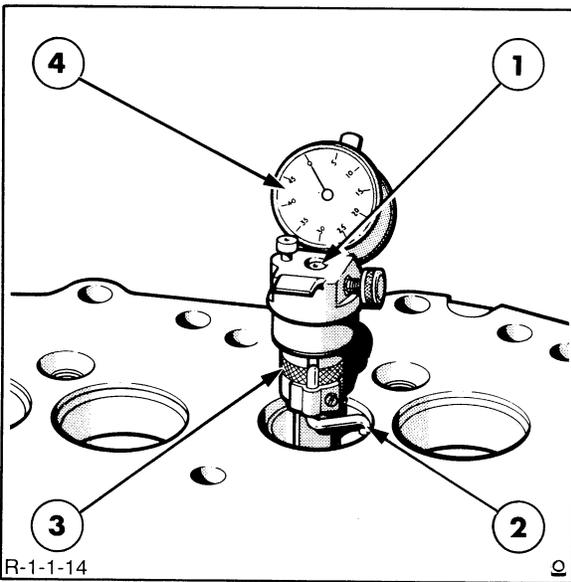

FIGURE 1-13
4. Measure the concentricity of the valve seat with a suitable gauge, as shown in Figure 1-13. If the valve seat runout exceeds the specified figure below, reface the seat.